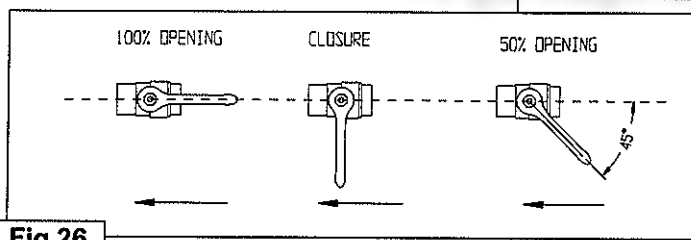

Fig.26
- Check the water circuit (Fig 25) with the humidifier cold. Adjust the opening on the manual airlock at 50% as shown in Fig. 26.